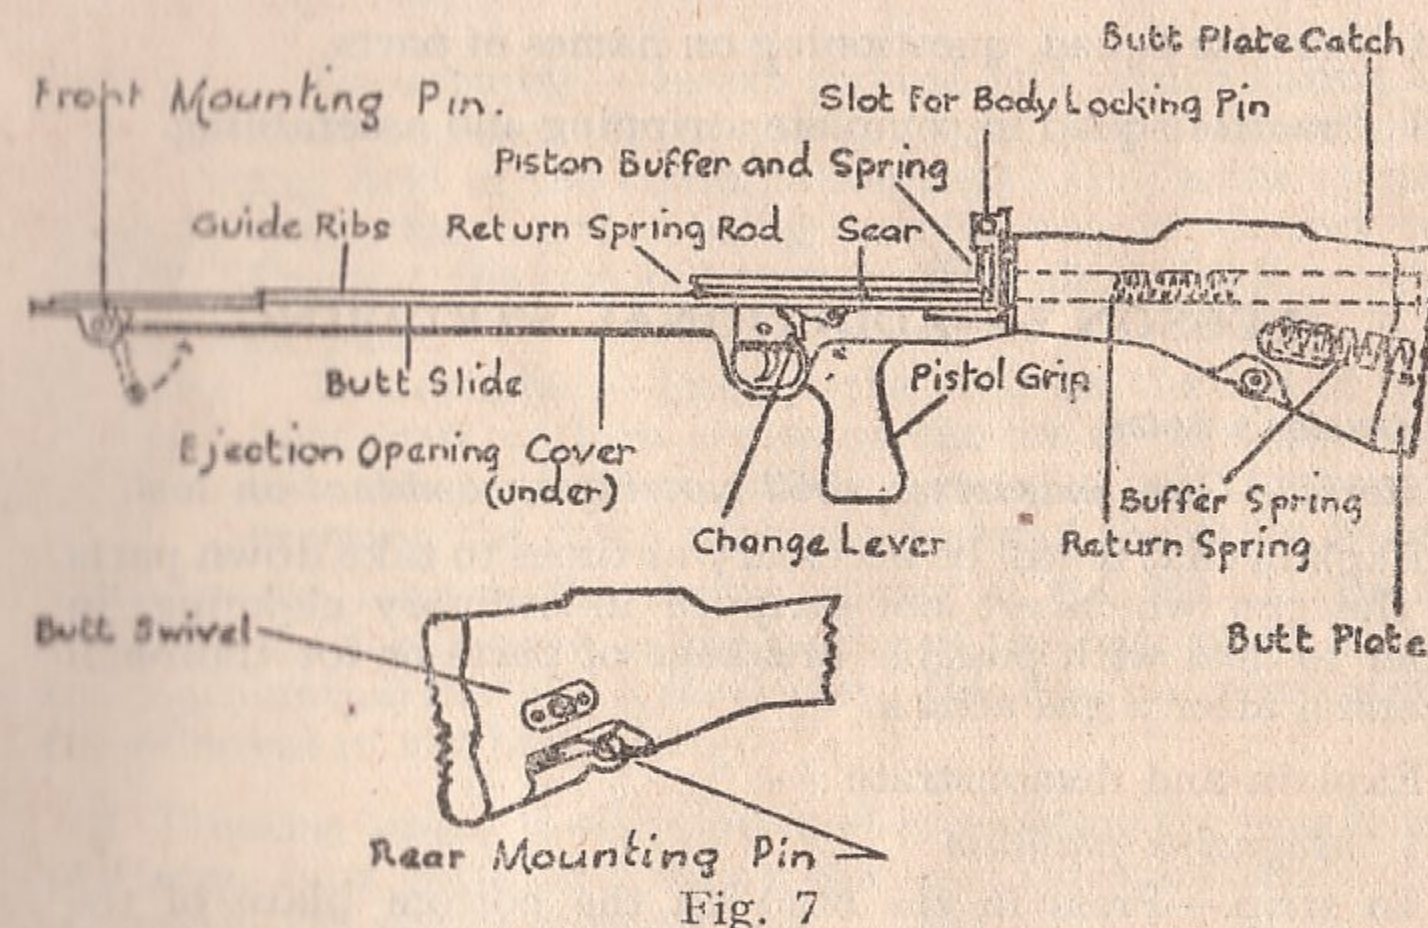

Fig. 7
- Name the principal parts of the butt group (see Fig. 7).